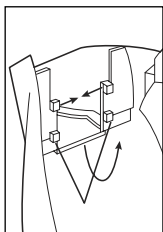

Figure 2
- To remove the filter baffle (See Figure 2): Remove the filter, slide the top baffle clips inwards until they clear the tops of the baffle mounts, slide the baffle down until the bottom baffle clips clear the bottoms of the baffle mounts, then move the baffle back towards the handle, and lift it out.